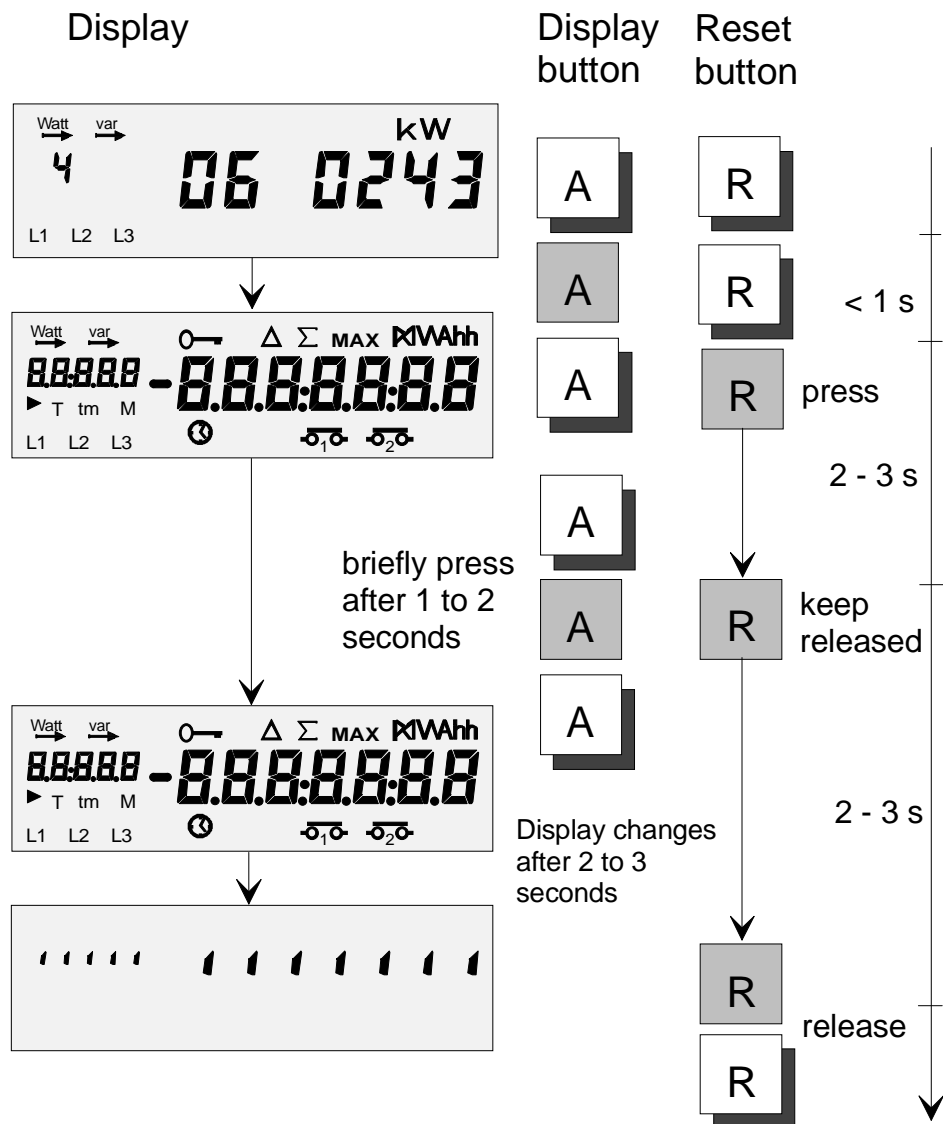

Figure 7.1 Entry into set mode
6. After a further 2 to 3 seconds, the display will again change to the image with the "quotes" (see Figure 7.1). Now release the reset button.